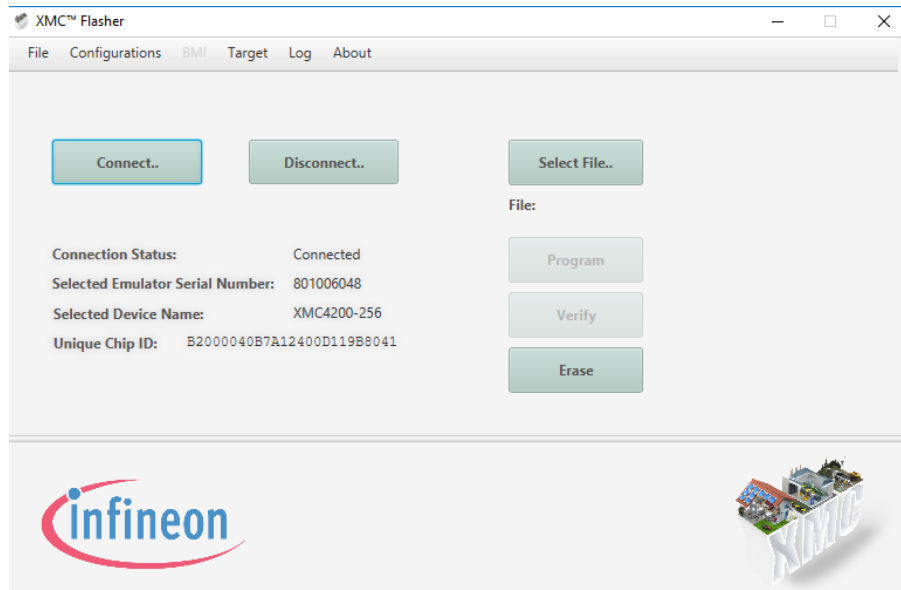

Figure 9. XMCFlasher Connected State Window
**Step 7.** The window will change and show the Connected Status as Connected (Figure 9). Additional information about the device will be shown including the Unique Chip ID.